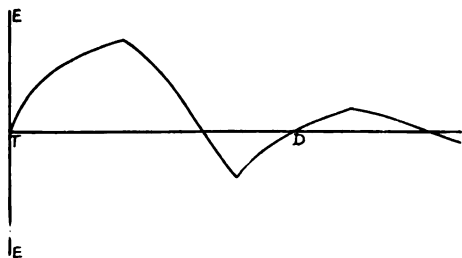

Fig. 42.—Increased Wave Length
or a greater inductance were substituted for (I), the wave length of the circuit CSI would be increased, and its oscillation diagram would be somewhat like that shown in Fig. 42, where the time of a complete oscillation is shown by the line TD.